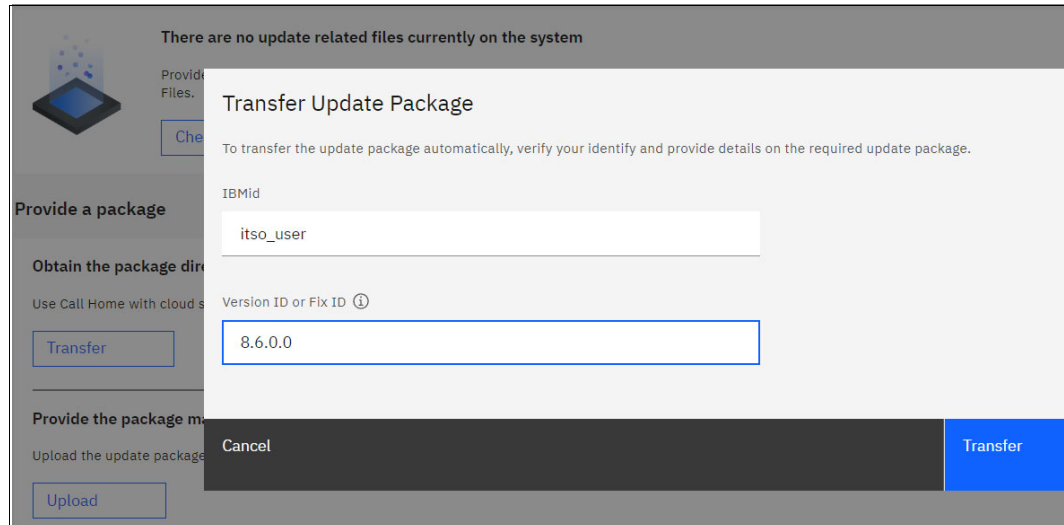
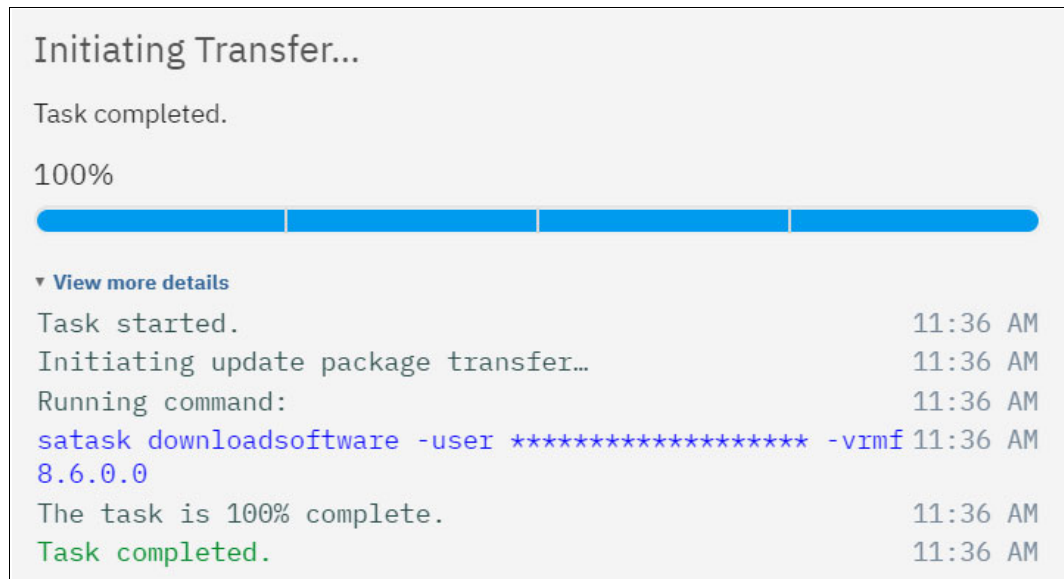

Figure 10-7 Transfer update package
Figure 10-8 Initiating transfer of the update package
4. On the Transfer Update Package page. Enter your IBMid and password along with either Version ID or Fix ID. Example is shown in Figure 10-7 on page 652 and Figure 10-8 on page 652